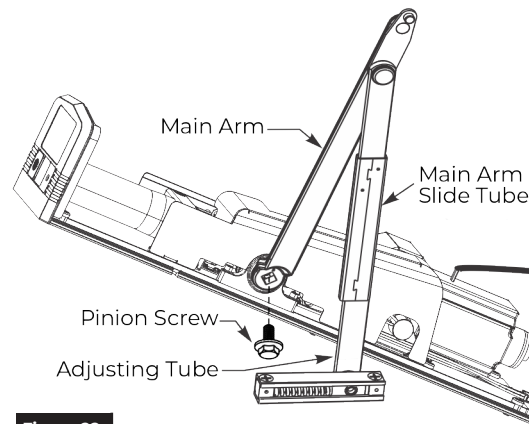

Figure 22
- Slide main arm rod into adjusting tube. (Figure 22)
- Place square of main arm onto closer pinion. (Figure 22)
- Attach main arm to pinion with screw then tighten with 7/16" wrench. (Figure 22)